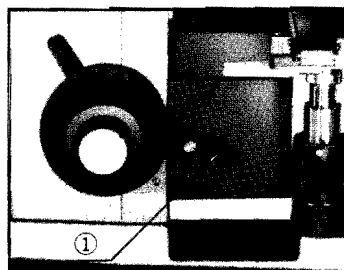

Fig. 8
In addition to the vertical movement of the stage by means of coarse and fine adjustments, the stage height position can be changed by means of the stage height locking lever ①. Maximum specimen height is 55mm with the standard objectives, and 37mm with the differential interference contrast attachment. (Fig. 8)